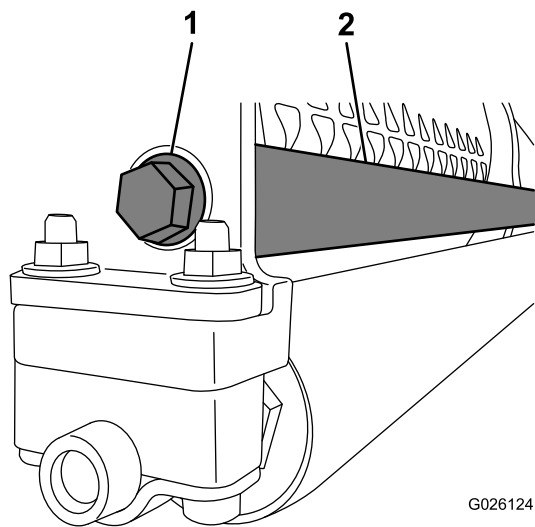

Figure 5
4. Secure the threaded end of the weight rod to the frame using a flange-head bolt (Figure 5).